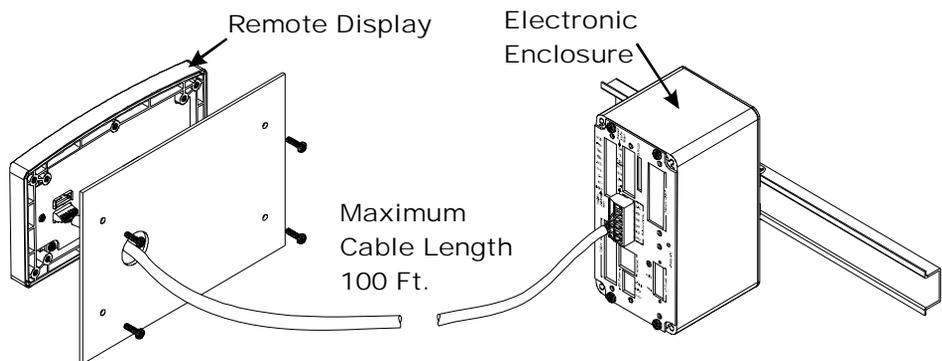

FIG. 9 REMOTE DISPLAY INSTALLATION
Step 3. Use the Template that was shipped with the instrument to cut the five holes required for mounting the display on a wall or on the door of an enclosure. (See Fig. 9)